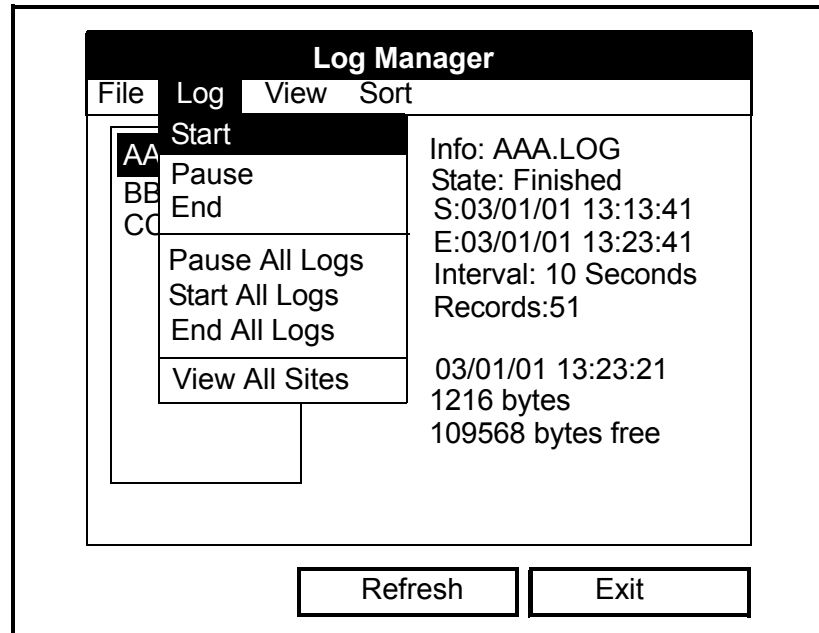

Figure 5-9: Log Menu in the Log Manager
2. Press the [▶] key to highlight the *Log* menu. Then, press [ENTER] and a window similar to Figure 5-9 below opens.